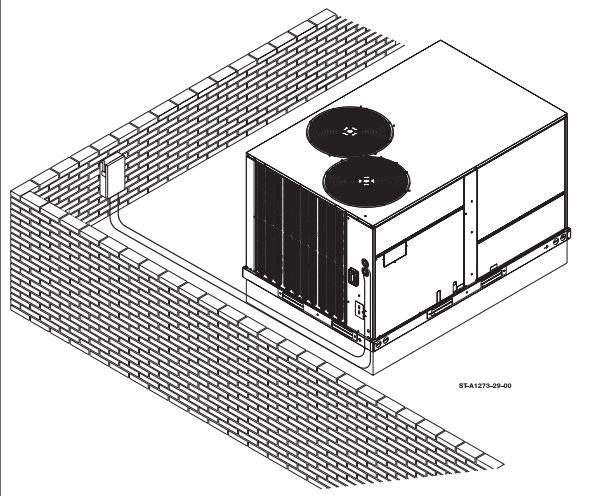

FIGURE 18
4. Figure 18 shows representative low voltage connection diagrams. Read your thermostat installation instructions for any special requirements for your specific thermostat.